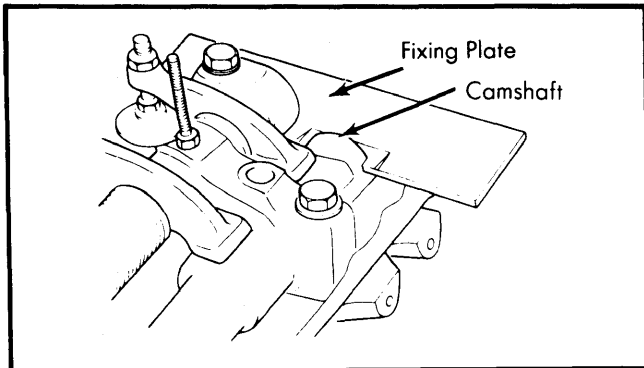

Fig. 7 I-Mark Camshaft Fixing Plate Installation
3) Loosen clips and remove air connecting hose, bracket and PCV hose. Remove 3 nuts attaching cam cover and remove cam cover. Loosen rocker arm adjusting screws. Hold camshaft in place by fitting a fixing plate (J-29761) to the slit in rear end of the camshaft. See Fig. 7.
2) Remove cam cover and rear plug. Check that fixing plate fits smoothly into slit at rear end of the camshaft, then remove fixing plate. See Fig. 7. Disconnect injection pipe from pump (using back-up wrench) and remove distributor head screw.